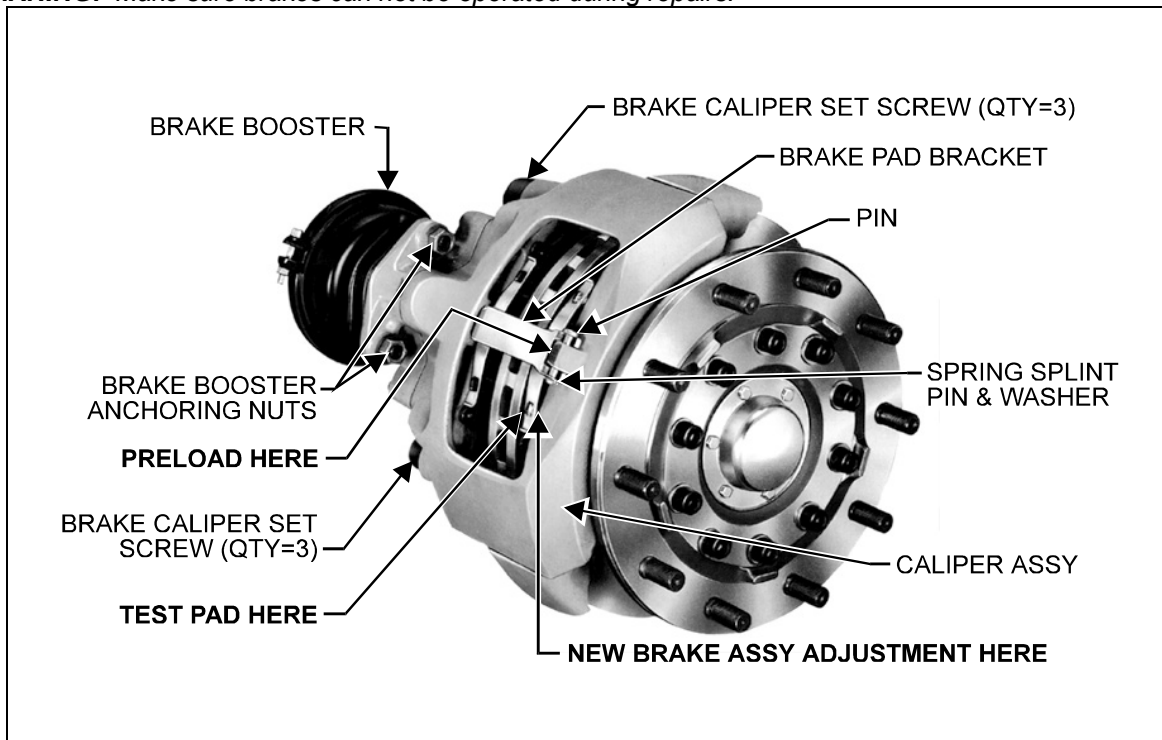

Figure 1
8. Readjust clearance adjustment by screwing in slack adjuster bolt so that the distance between the thrust member and the brake pad carrier equals 0.018" (0,7 mm) (see Fig. 1 "NEW BRAKE ASSY ADJUSTMENT HERE").
11. Insert feeler gauge in between L.H. side of brake pad and brake disc (see Fig. 1 "TEST PAD HERE" & 8).
G. Readjust clearance adjustment by screwing in slack adjuster bolt so that the distance between the thrust member and the brake pad carrier equals 0.018" (0,7 mm) (see Fig. 1 "NEW BRAKE ADJUSTMENT HERE").